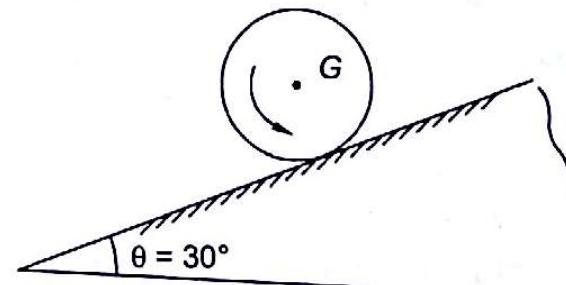

Fig. 18.16
18.2 A string is wound over two uniform discs of radius R and mass m as shown in the Fig. 18.16. The system is released from rest, determine the acceleration of the mass centre G_2 of disc II.
18.5 The mass of a homogeneous sphere of radius 0.16 m is 30 kg. The coefficient of friction between sphere and inclined plane is 0.10. Sphere is on inclined plane as shown in Fig. 18.16. Determine the angular acceleration of the sphere and linear acceleration of its mass (I_g of sphere $= 0.4mR^2$).